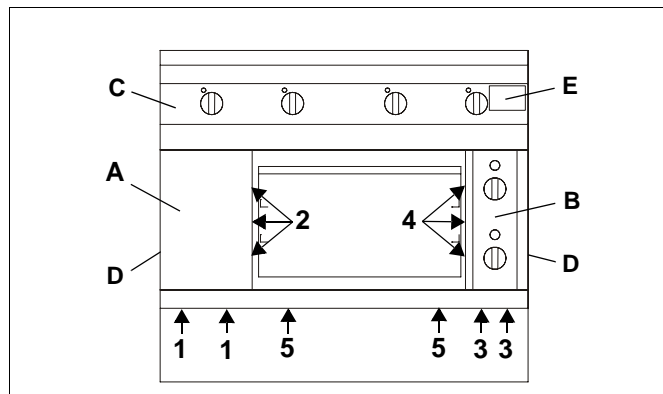

Fig. 5 General view
The specification plate (E) is located in each case inside and outside on the right of the operator panel (C) (Seite 16 Fig. 5).